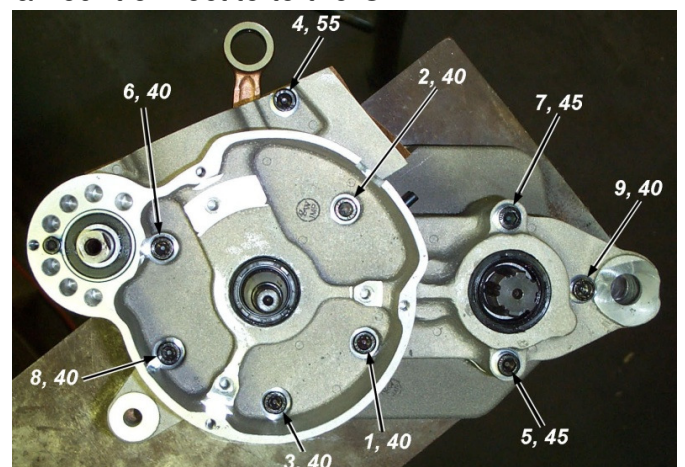

Figure 28
8. Torque to 12Nm (105in-lb) in the pattern shown in figure 28.